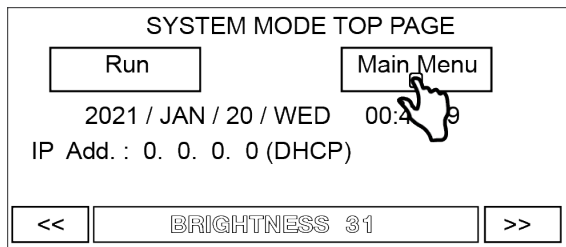

Figure 26. System Mode Top Page
- 3. On the System Mode Top Page, touch the Main Menu button (see Figure 26).